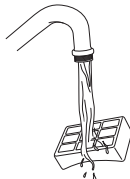

Fig. 26
- 4 Wash the filter under the tap using lukewarm water with the dirty side face down until the water runs clear. **(Fig. 26)**